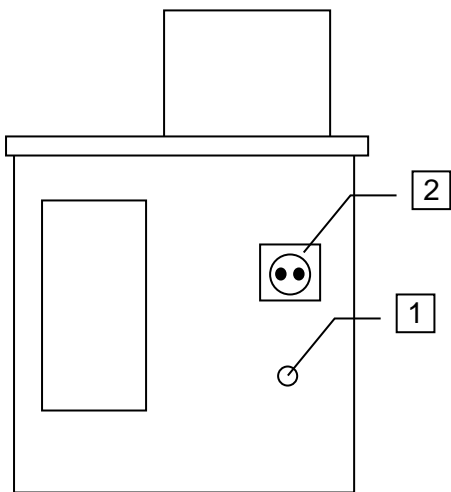

Fig. 4 Backside of TV2000 AKV
- Apply vacuum to the back of the system(1 - figure 4). When using constant vacuum -400 mbar will be sufficient. When using a small pump connect vacuum to connector located at the backside of the apparatus. Pump can be automatically powered by using connector at backside (2 - figure 4).